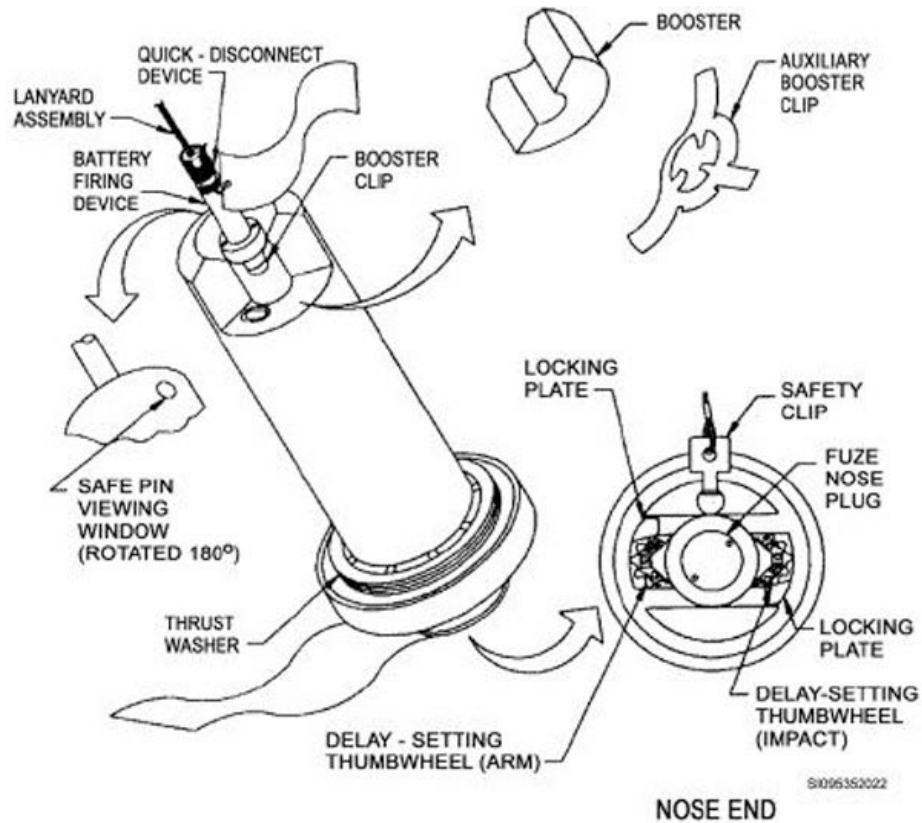

Figure 2-9. Typical FMU-81 fuze.
This electrical nose and tail fuze also provides a wide range of selective arming and impact functioning delays (fig. 2-9). Thumbwheels on each side of the fuze face are used to set the arming and impact functioning delays. The fuze arming circuit is inoperable when the arming thumbwheel is positioned to SAFE (S); locking plates behind the thumbwheels prevent their accidental movement.